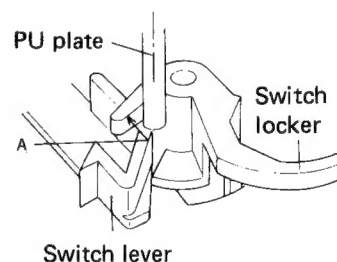
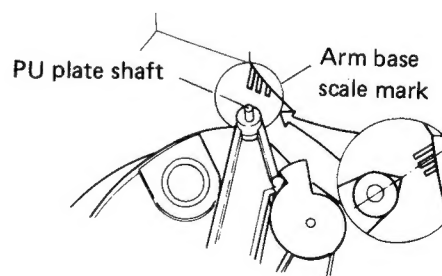

Fig. 4-3 Adjustment of switch locker
Fig. 4-4 Adjustment PU plate
In order to turn the power OFF, the PU plate shaft touches surface ① of the switch locker pushing it over so it locks with the switch lever turning the microswitch OFF (Fig. 4-3). If the amount of push on the switch locker is insufficient, it can not lock with the switch lever. With the tonearm locked in the arm rest, as shown in figure 4-4, attach the PU plate precisely midway between the first and second points from the arm base scale mark counting away from you.